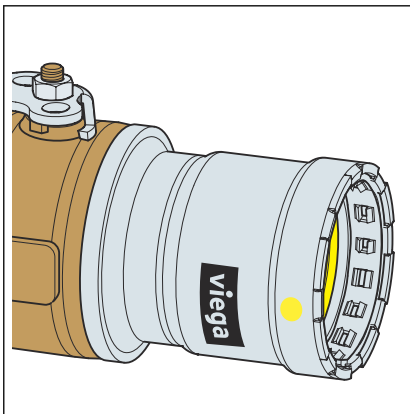

Fig. 5: Marking
- Yellow dot on each press connection ↪ Fig. 5
- Viega ↪ Fig. 5